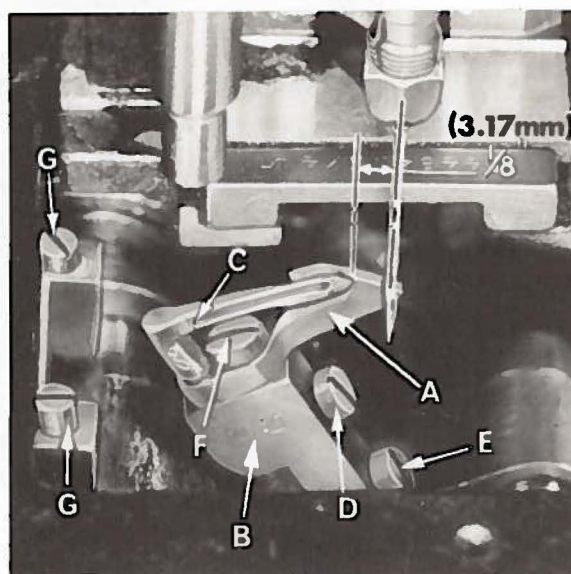
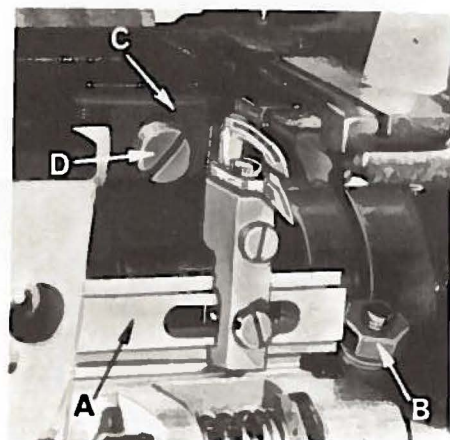
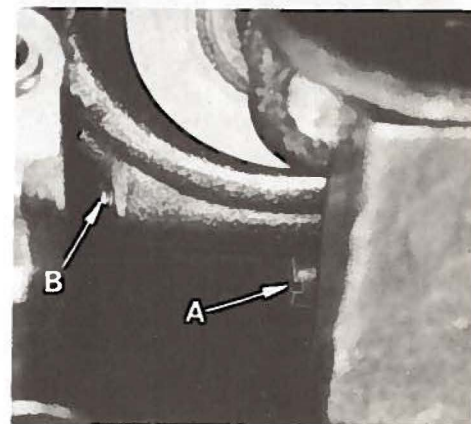

Fig. 5
Fig. 6
Fig. 10
With the needle guard (A, Fig. 5) attached to the looper holder (B), insert looper (C) in looper holder as far down as its shank will permit, with its point towards the operator. The right side of the looper blade should be at right angles to the centerline of the mainshaft and the needle guard should be as far to the right as possible. Tighten screw (D). Loosen screw (E) and position looper holder so that the point of the looper when moving forward, passes the left side of the needle as close as possible without picking at the needle (.003 inch or .076 mm). Retighten screw (E). Set the looper holder frame (A, Fig. 6)
so the distance between the centerline of the needle and the point of the looper is 1/8 inch (3.17 mm) when the looper is at its farthest point of travel to the rear (Fig. 5). This can be accomplished by loosening the hexagon nut (B, Fig. 6) in the looper holder frame driving arm. Move the looper holder frame (A) towards the front or rear as required and retighten nut (B). Looper gauge No. 21225-1/8 can be used advantageously in making this adjustment. Set the needle guard (A, Fig. 5) so that it barely contacts the needle and tighten screw (F).
Set the feed dog (C, Fig. 6) so there is equal clearance on all sides in the throat plate. See that the tips of the teeth extend the depth of a tooth and parallel in both planes with the top of the throat plate at highest point of travel. Loosen screw (D) which secures the feed dog in position, adjust screws (G, Fig. 5) as required to attain correct height and parallelism across-the-line-of-feed, retighten screw (D, Fig. 6). Loosen screw (A, Fig. 10) and adjust screw (B) as required to attain parallelism of feed dog to throat plate in-line-of-feed, retighten screw (A).